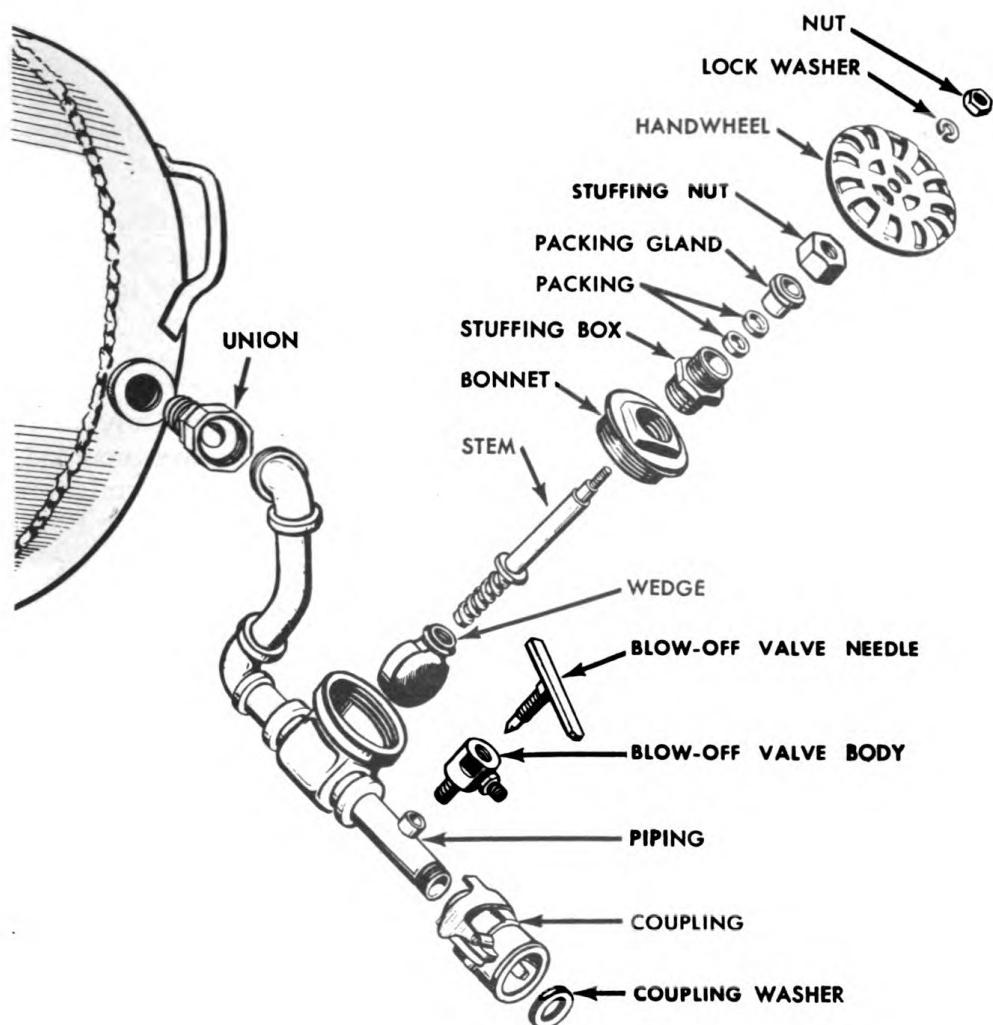

Fig. 60. Fuel outlet piping. (Exploded view of fuel container valve and blow-off valve.)
- d. Maintenance. (1) If fuel outlet valve becomes defective, disassemble and replace parts as necessary (fig. 60). Do not attempt to remove valve body from fuel outlet piping (connections of fuel outlet piping and fuel container valve body are lead soldered).
(2) Do not attempt to disassemble coupling. If coupling is defective, replace coupling as a unit. Replace the synthetic rubber washer as required.
(3) If leaks develop in blow-off valve, disassemble as shown in figure 60. Replace parts as required.